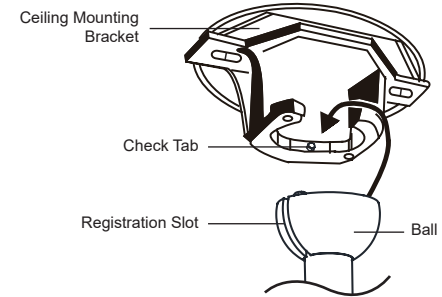

Fig. 10
Step 9. Lift the motor assembly into position and place the ball into the ceiling mounting bracket. Rotate the entire assembly until the “Check Tab” has dropped into the “Registration Slot” and seats firmly. **(Fig. 10)**